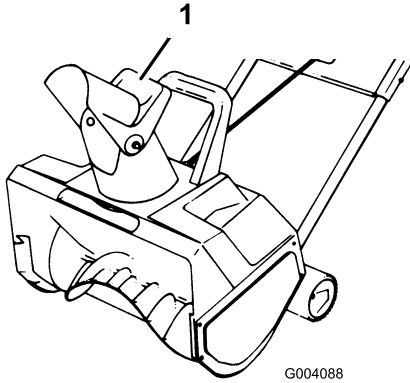

Figure 9
- To adjust the height of the snow stream, raise or lower the chute deflector handle (Figure 9).